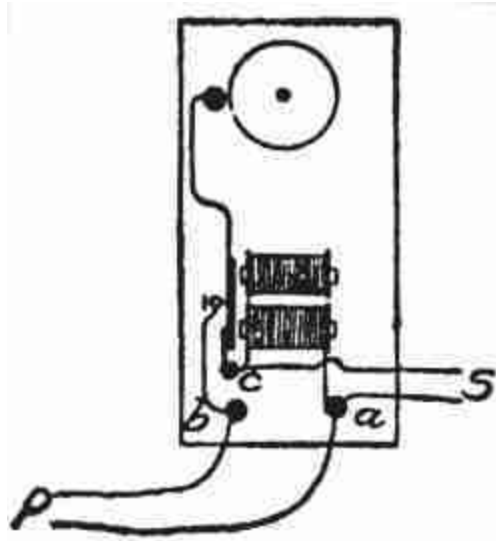
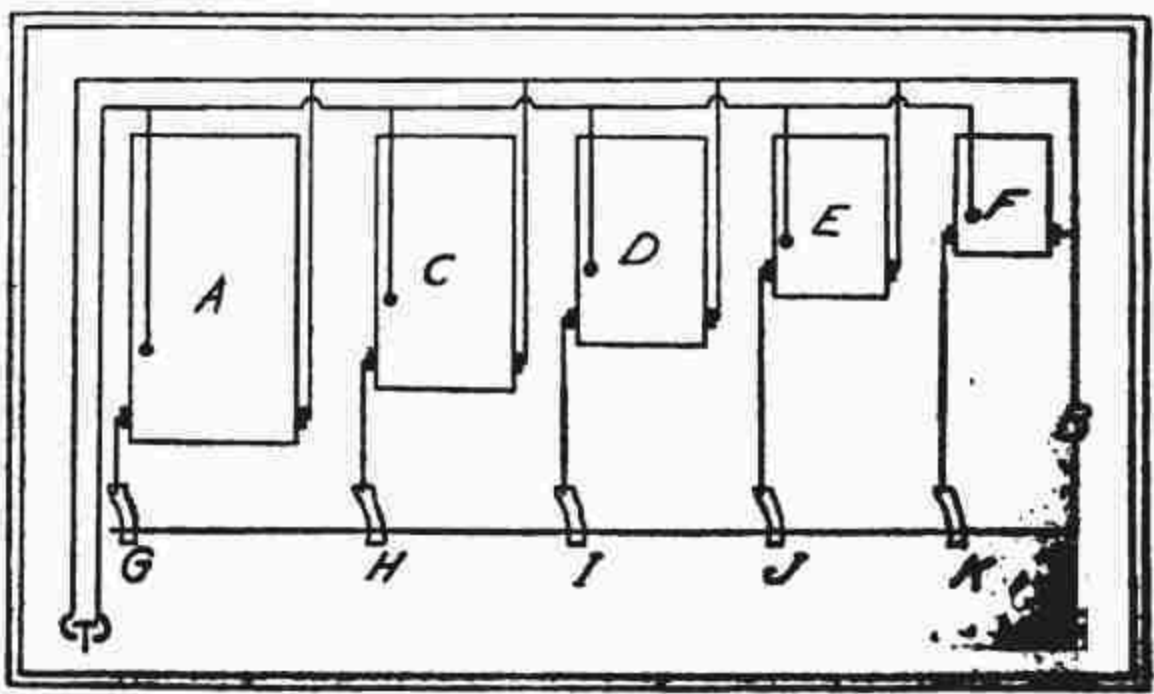

Fig. 160
Fig. 161
was turned so as to produce twenty to thirty revolutions of the armature per second the dancing of the disc sounded like the low hum produced by the wing of a humming bird. When a large, wide-mouthed bottle was brought near to this the sound was greatly reinforced, as the sound of a bee becomes louder when he appears at your open window. We next replaced the iron disc and put on the cap again. We then connected the receiver at *S* (Fig. 160) and connected two dry cells at
p. When the primary circuit was closed the disc vibrated in time with the hammer of the bell making the same tone. We substituted for the bell a series of buzzers. The smallest had an armature about one inch long, while that of the largest was about two inches long. The shorter the armature the faster it vibrated, and the higher was the pitch of its tone. We arranged these as shown in Fig. 161. *A, C, D, E* and *F* are the buzzers. *B* is a battery of two cells and *G, H, I, J* and *K* are springs of sheet brass which act as push buttons. By operating upon these springs with one's fingers, as upon the keys of an organ, it was possible to represent the tones of a reed organ after a fashion. The armatures are reeds and they are made to vibrate by electromagnets. We called it an electric organ. The telephone receiver was connected at *T*, and the wires which led to it were lengthened so that the receiver might be a long distance away. The disc in the receiver kept time with the armature of each buzzer when it sounded and faithfully reproduced its sound. But the strangest thing was that when any two buzzers sounded together, or, indeed, if all five buzzers sounded together, the receiver responded to them all at the same time, so that a person in another room or in another house, with the receiver at his ear, might hear exactly what those did who were in the same room with the buzzers. The wires from the receiver were connected with the coil in each buzzer so as to get the induced current, as shown in detail in Fig. 160.